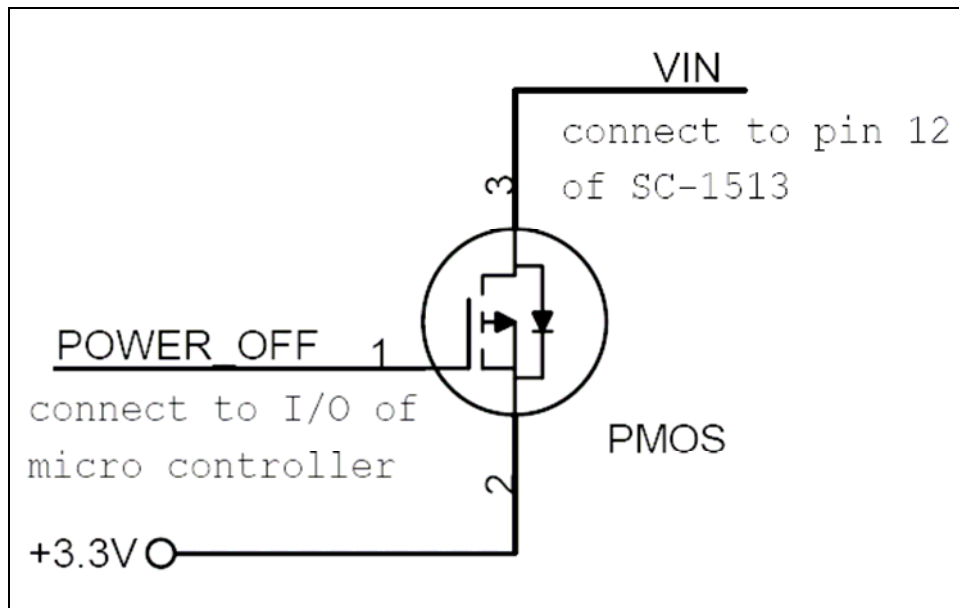

Figure 3. Example circuit: actually turn off the power of receiver, SC-1513.
**Note:** This mode is not implemented in SC-1513. If very low power consumption is desired, please use a power switch to turn on/off the receiver. There is an example circuit in the figure 3.